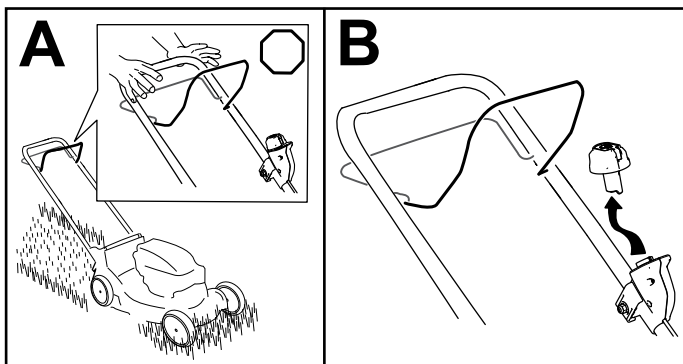

Figure 13
1. Release the blade-control bar (A of Figure 13).
2. Remove the electric-start button from the electric-start switch (B of Figure 13).